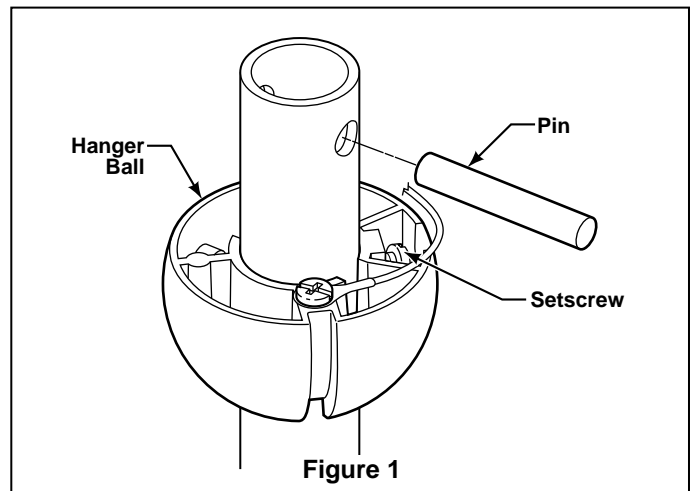

Figure 1
Your new ceiling fan will require a grounded electrical supply line of 120 volts AC, 60 Hz, 15 amp circuit. The outlet box must be securely anchored and capable of withstanding a load of at least 50 lbs. **Figure 1** depicts different structural configurations that may be used for mounting the outlet box.
1. Remove the Hanger Ball by loosening the setscrew in the Hanger Ball until the ball falls freely down the Downrod. (Figure 1) Remove the Pin from the Downrod, then remove the Hanger Ball. Retain the Pin and Hanger Ball for reinstallation in Step 5.
5. Reinstall the Hanger Ball (Figure 1) on the Downrod as follows. Route the three 80" wires and cable through the Hanger Ball. Position the Pin through the two holes in the Downrod and align the Hanger Ball so the Pin is captured in the groove in the top of the Hanger Ball. Pull the Hanger Ball up tight against the pin. **Securely tighten the setscrew in the Hanger Ball.** A loose setscrew could create fan wobble.
The fan must be hung with at least 7' of clearance from floor to blades (Figure 1)